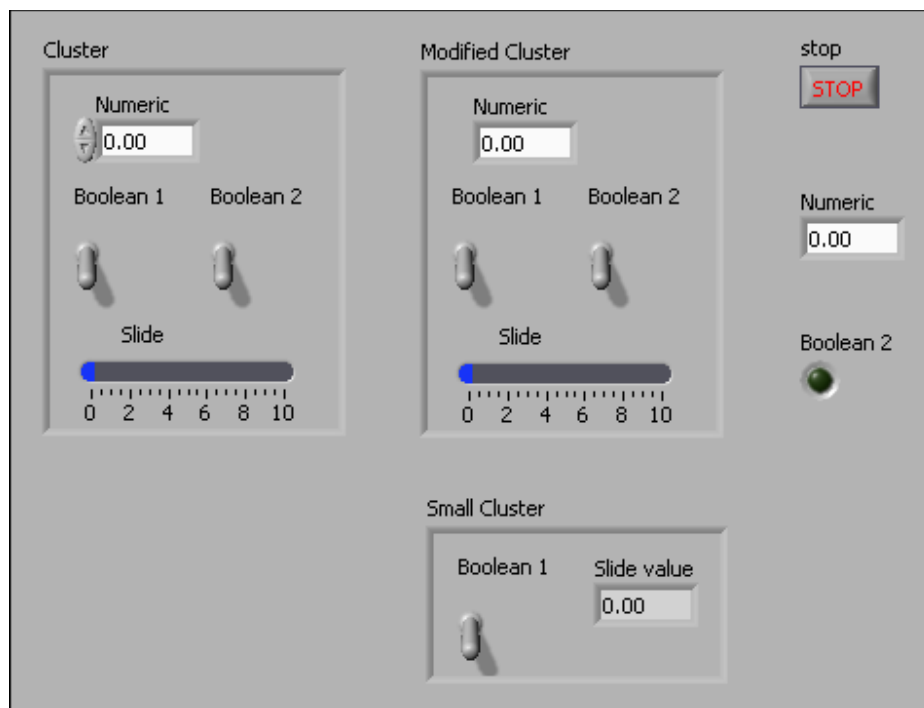

Figure 3
1. Open a blank VI and build the front panel in Figure 3.
5. Copy `Modified Cluster` and relabel it to create `Small Cluster`. Remove the second toggle switch and horizontal fill slide indicators. Relabel the numeric indicator to `Slide value`. Resize the cluster as shown in Figure 3.